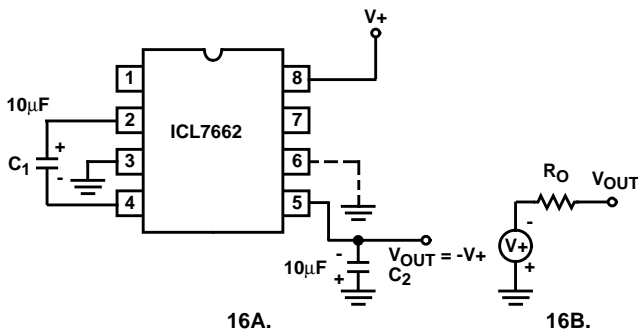
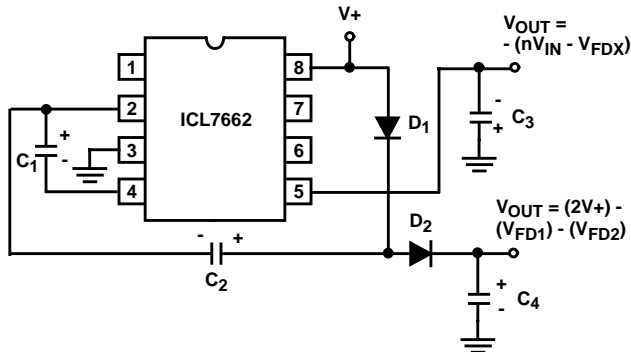

FIGURE 16. SIMPLE NEGATIVE CONVERTER AND ITS OUTPUT EQUIVALENT
FIGURE 23. COMBINED NEGATIVE CONVERTER AND POSITIVE DOUBLER
The majority of applications will undoubtedly utilize the ICL7662 for generation of negative supply voltages. Figure 16 shows typical connections to provide a negative supply where a positive supply of +4.5V to 20.0V is available. Keep in mind that pin 6 (LV) is tied to the supply negative (GND) for supply voltages below 10V.
ESR also affects the ripple voltage seen at the output. The total ripple is determined by 2V, A and B, as shown in Figure 16. Segment A is the voltage drop across the ESR of C_2 at the instant it goes from being charged by C_1 (current flowing into C_2) to being discharged through the load (current flowing out of C_2). The magnitude of this current change is $2 \times I_{OUT}$, hence the total drop is $2 \times I_{OUT} \times ESR_{C_2}V$. Segment B is the voltage change across C_2 during time t_2 , the half of the cycle when C_2 supplies current the load. The drop at B is $I_{OUT} \times t_2/C_2V$. The peak-to-peak ripple voltage is the sum of these voltage drops:
Figure 23 combines the functions shown in Figure 16 and Figure 22 to provide negative voltage conversion and positive voltage doubling simultaneously. This approach would be, for example, suitable for generating +9V and -5V from an existing +5V supply. In this instance capacitors C_1 and C_3 perform the pump and reservoir functions respectively for the generation of the negative voltage, while capacitors C_2 and C_4 are pump and reservoir respectively for the doubled positive voltage. There is a penalty in this configuration which combines both functions, however, in that the source impedances of the generated supplies will be somewhat higher due to the finite impedance of the common charge pump driver at pin 2 of the device.